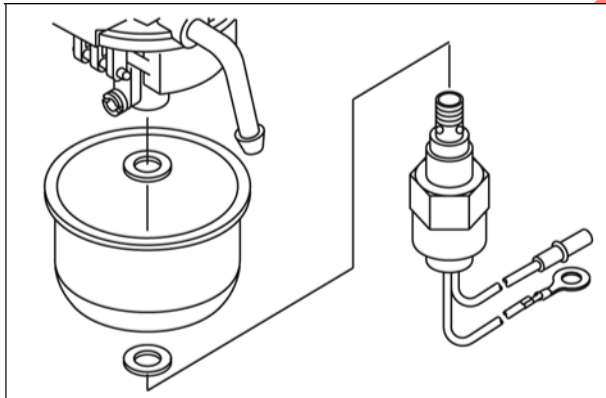

Figure 49
14. Install float bowl with new gaskets (Figure 49).